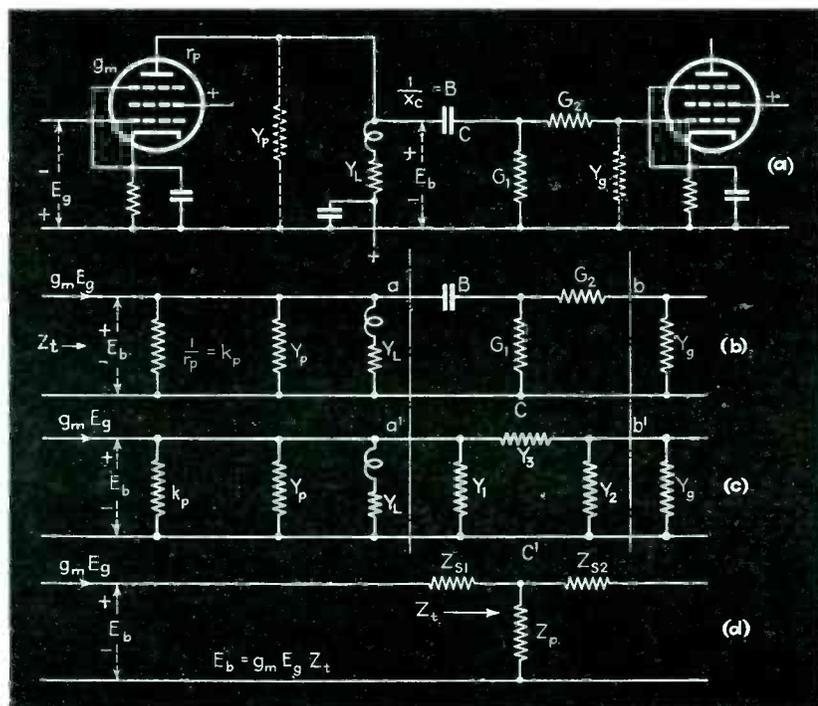

Fig. 4—Diagram of video amplifier. The equivalent T network of the amplifier, shown at (d) is to be determined
**Problem 2.** Draw the equivalent circuit of the video amplifier shown in Fig. 4 and replace the network so obtained by a T network, treating (Continued on page 160)